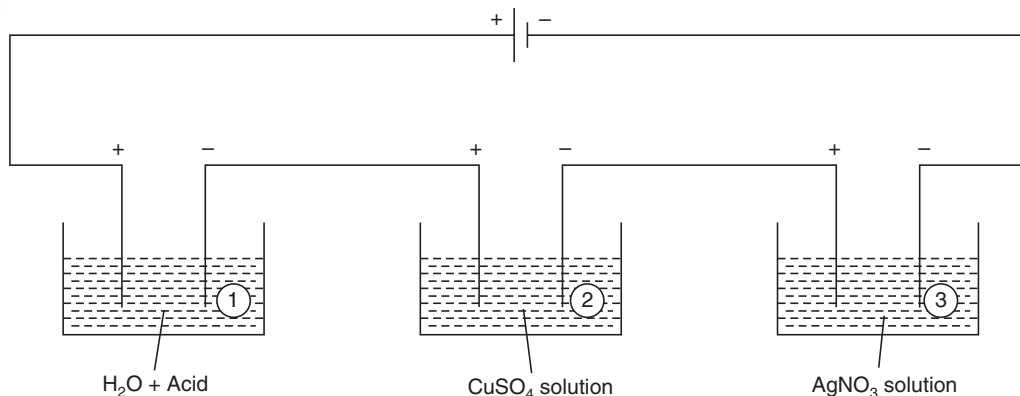

Fig. 9.2 Different voltameters containing different electrolytes.
That is to say, when 1 g of H_2 is liberated in cell (1), 63.5/2 g Cu will be liberated in cell (2) and 108 g Ag will be liberated in cell (3) (Fig. 9.2).